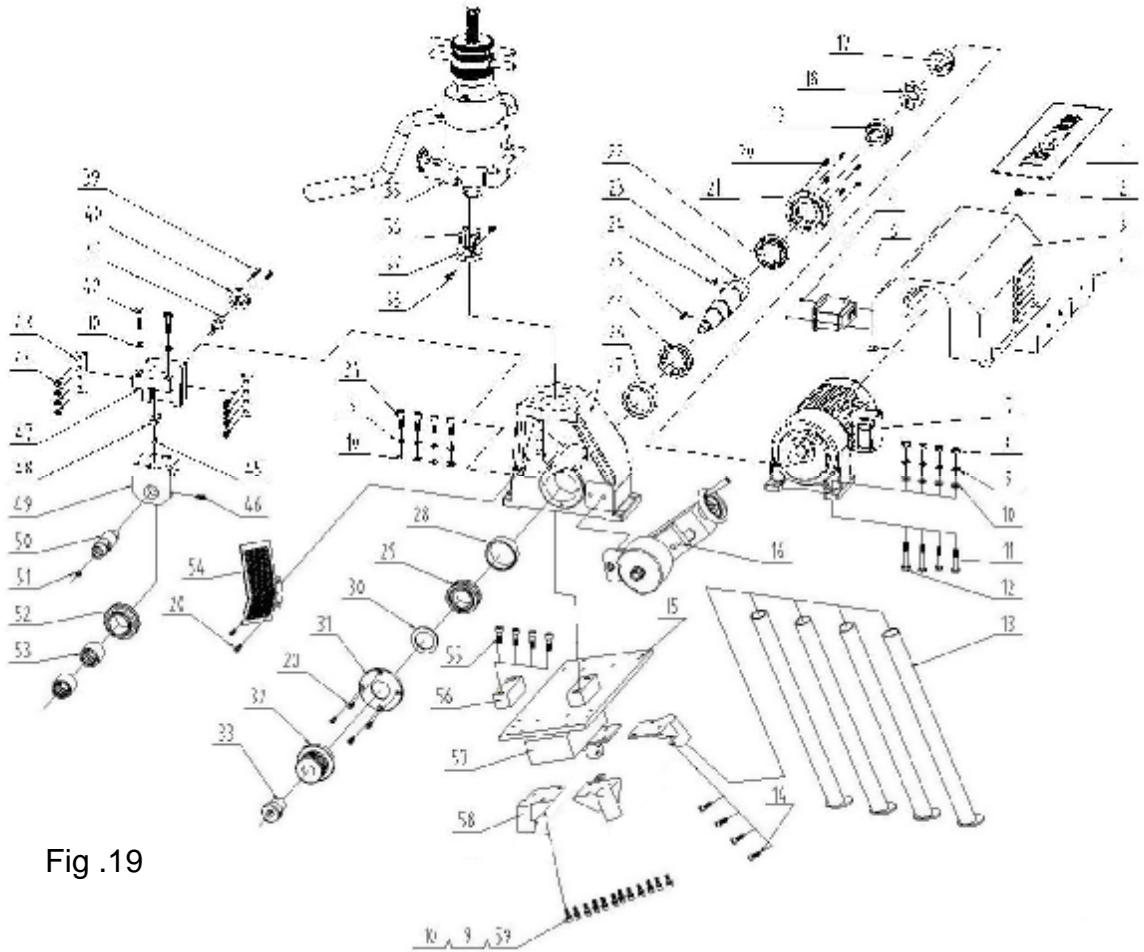

Fig .19
1. TWG-IIA -PRoll grooving machine component and parts form (Fig.19)